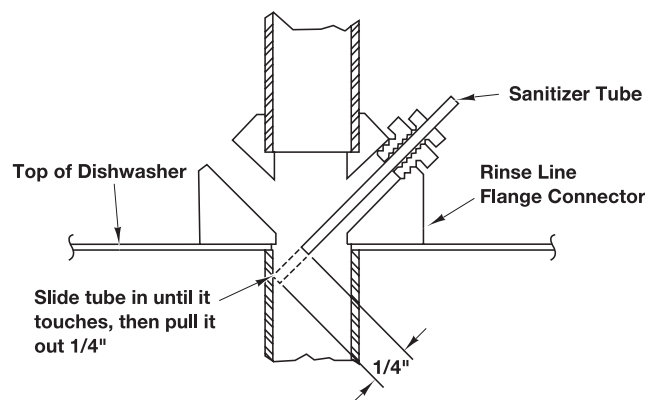

Fig. 28
- Remove the pipe plug (Fig. 28) for installation of the chemical sanitizer tube. To assure an unobstructed flow of sanitizer, locate the sanitizer tube in the center of water flow by drilling the sanitizer tube fitting so that its inside diameter is equal to the outside diameter of the tube. Slide the tube into the flange until it touches the opposite side and then pull it back out 1/4 inch (Fig. 28).